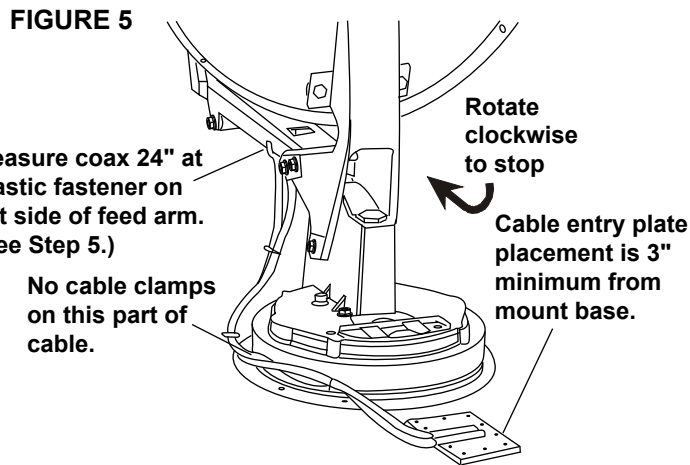

FIGURE 5
STEP 4. Mount dish on roof in upright position. Rotate clockwise to stop, Figure 5. Dish will be toward back of vehicle when in stowed or travel position. The word FRONT is embossed on the base. This should face front of vehicle. Secure to roof using screws (provided). The travel bracket should be mounted to roof 6-1/8" from base of dish, toward back of vehicle. See Figure 6.
STEP 5. Facing the front of the dish, note the coax attached to side of the feed arm. Measure 24" of coax from this point. **Do not cut.** Put coax around mount base, Figure 5.